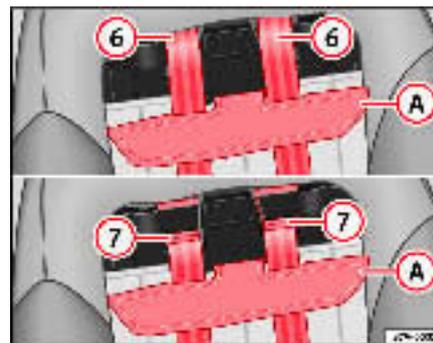

Fig. 36 Integrated child seats. adjusting the belt routing
- Pull the upper part ⇒ fig. 36 ① of the support off the Velcro fasteners to the front.
- For larger children, guide the two shoulder belts in the side slots to the upper position ⑥.
- Then push the support ① under the belts and secure it ⇒ ⚠.
The support ⇒ fig. 36 ① must be pressed onto the seat in the area of the Velcro fastener in such a way that the belts can move freely in the slots. ■